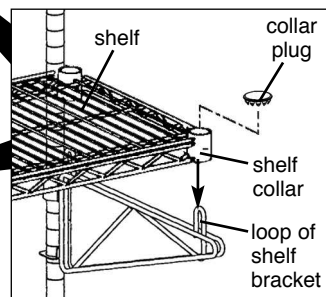

figure 6
• Lay each shelf\* on top of wall brackets, and cover shelf collar openings with collar plugs (see figure 6).